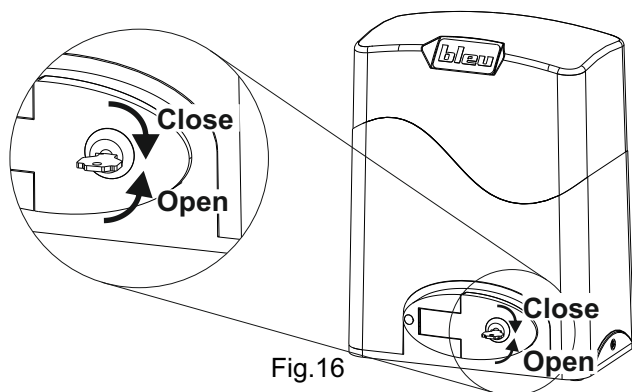

Fig.16
- Insert the key and rotate it 90° counter-clockwise (Fig. 16).